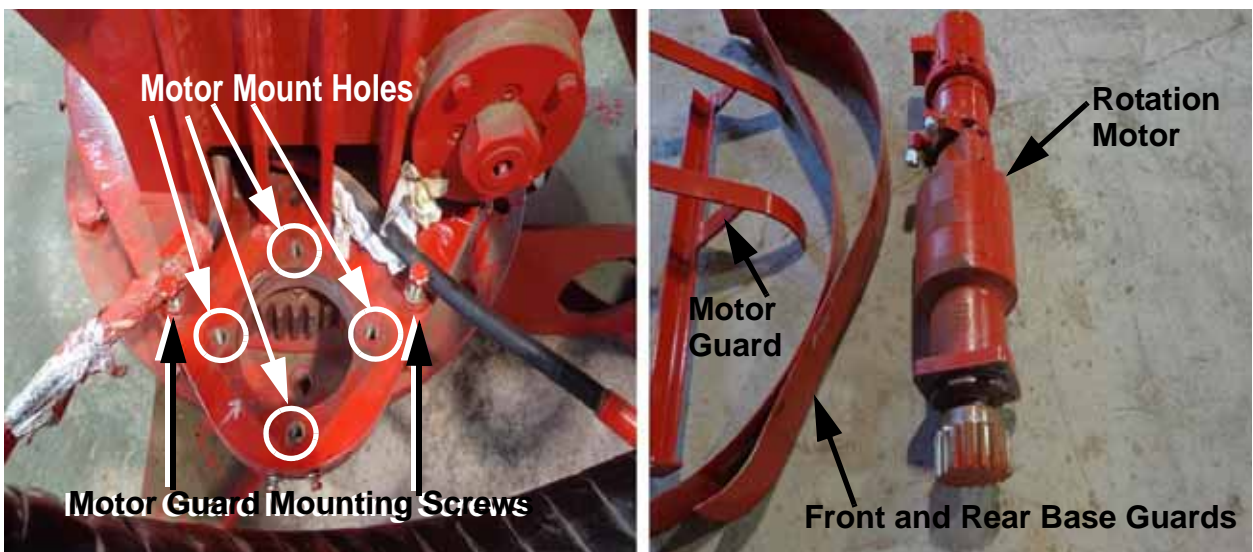

Figure 6: Motor and guard removed.
3. Remove rotation motor guard by removing two 3/4" mounting bolts. See Figure 6 on page 7.
- Re-Install rotation motor, rotation motor guard, front and rear bottom assembly guards in reverse order of removal. See Figure 6 on page 7.